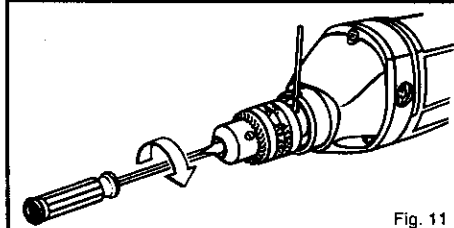

Fig. 11
5. Open the chuck jaws and remove the chuck screw by turning it in a clockwise direction. See Figure 11.